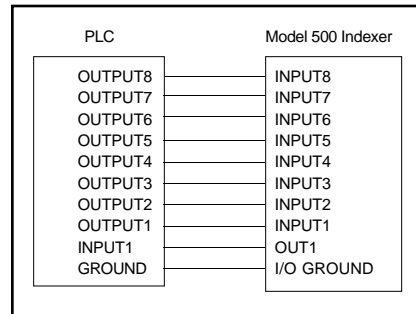

Figure 4-18. PLC Connection
STEP ⑤ Assuming your PLC accepts open-collector outputs connect the inputs and outputs as shown in Figure 4-18. If not, you will need to add pull-up resistors to the outputs.